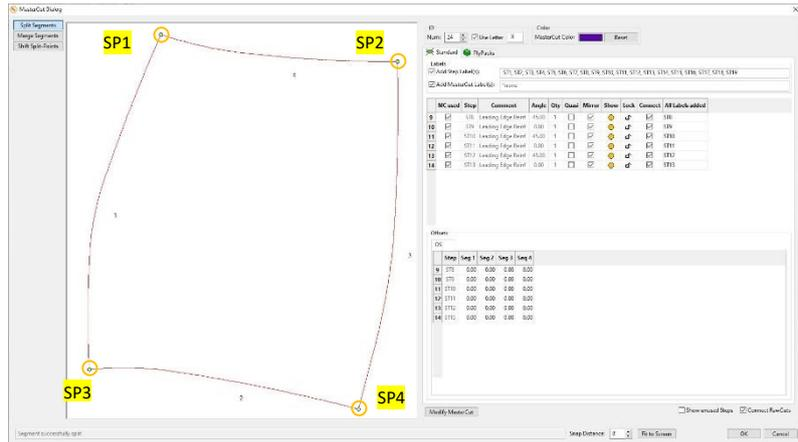

Figure 293
- 89. ... and for MasterCut X and split the outer geometry as shown in Figure 293...